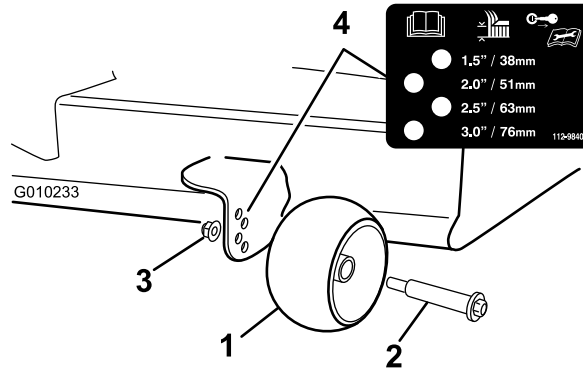

Figure 33
3. Adjust the anti-scalp rollers (Figure 33) to match the closest height-of-cut position.